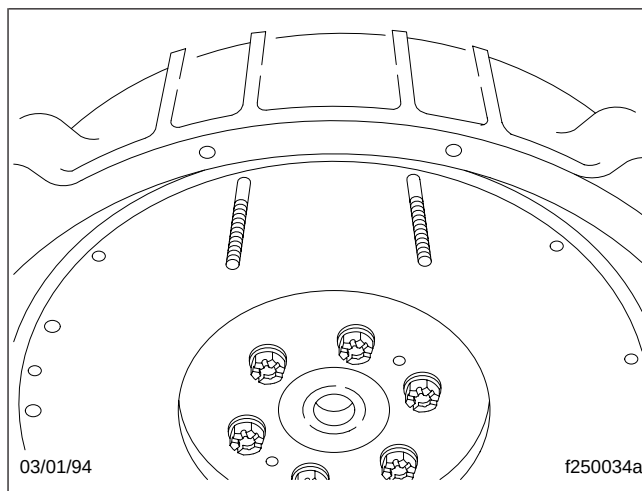

Fig. 1, Installing the Guide Studs
1. If not already installed, insert two 7/16–14 x 5 guide studs in the upper mounting holes of the flywheel. See Fig. 1. Rotate the flywheel to level the guide studs.